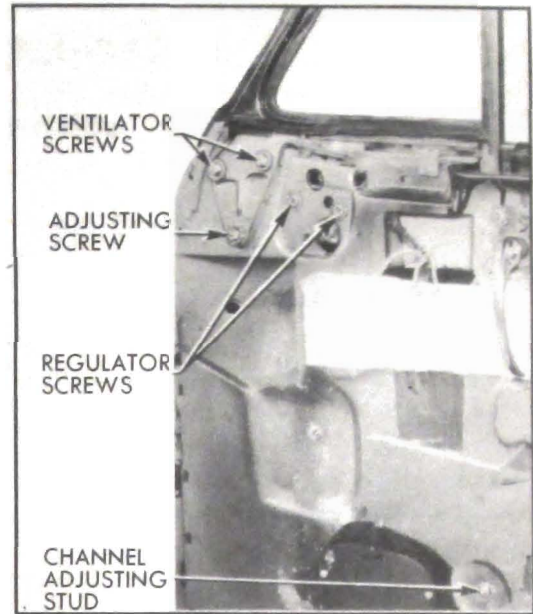

Figure 13-52—Door Ventilator Adjustments
1. To move upper end of ventilator inward or outward, loosen the ventilator frame adjusting screw lock nut and turn adjusting screw as required. It may be necessary to loosen the two upper screws slightly. Tighten upper screws and adjusting screw lock nut when adjustment is completed. See figure 13-52.
3. Adjust division channel in required direction by means of the adjusting stud at lower end of channel. See figure 13-52.